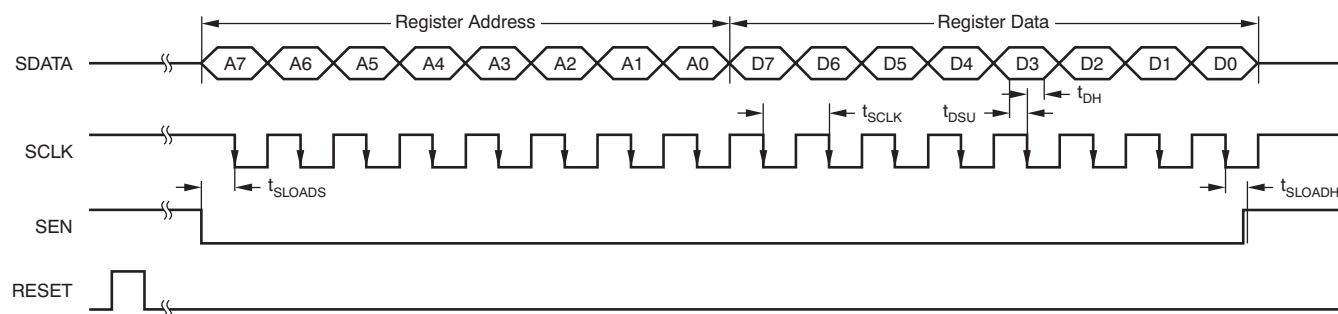

Figure 9. Serial Interface Timing
1. Either through hardware reset by applying a high pulse on RESET pin (of width greater than 10ns), as shown in Figure 9; or